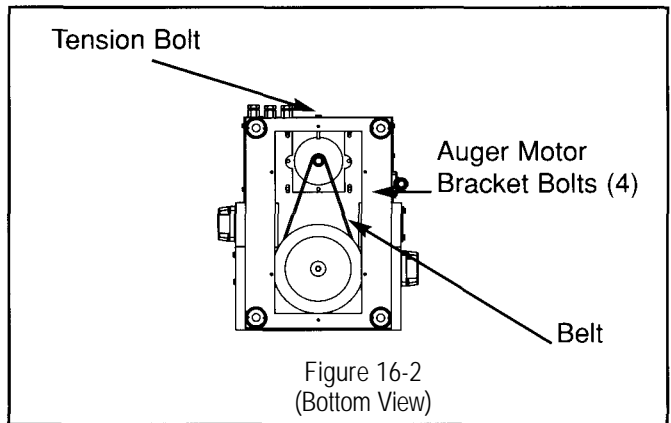

Figure 16-2
4. Remove the bolts securing the auger motor bracket in place (see figure 16-2).
5. Loosen the tension bolt located at the back of the unit, until there is enough slack to remove the belt (see figure 16-2).
6. Remove the belt (see figure 16-2).